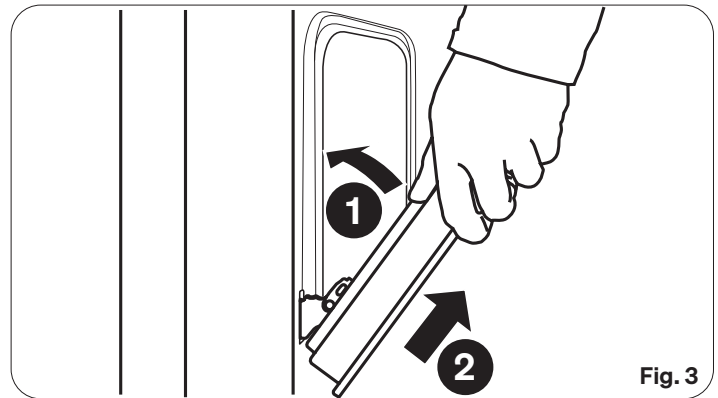

Fig. 3
- Grip the sides of the door and withdraw by going forwards and upwards (Fig. 3).